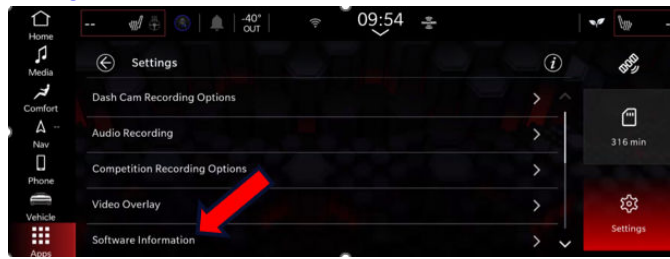

Fig. 5
8. Click on Software Information Fig. 5.